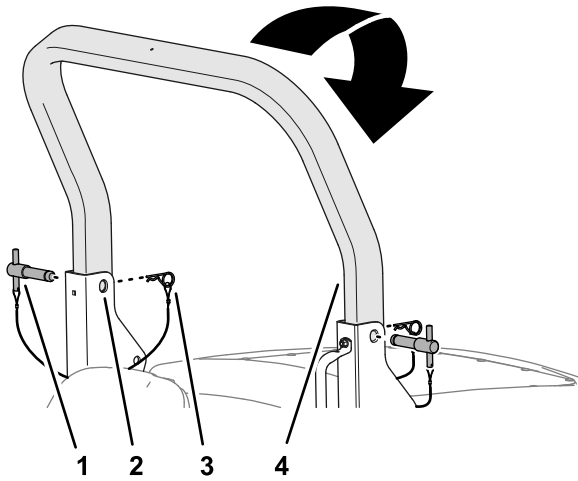

Figure 20
2. Remove the hairpins from the roll-bar pins in the pivot brackets of the lower roll-bar frame (Figure 20).
3. While supporting the weight of the upper roll bar, remove the roll-bar pins from the pivot brackets (Figure 20).